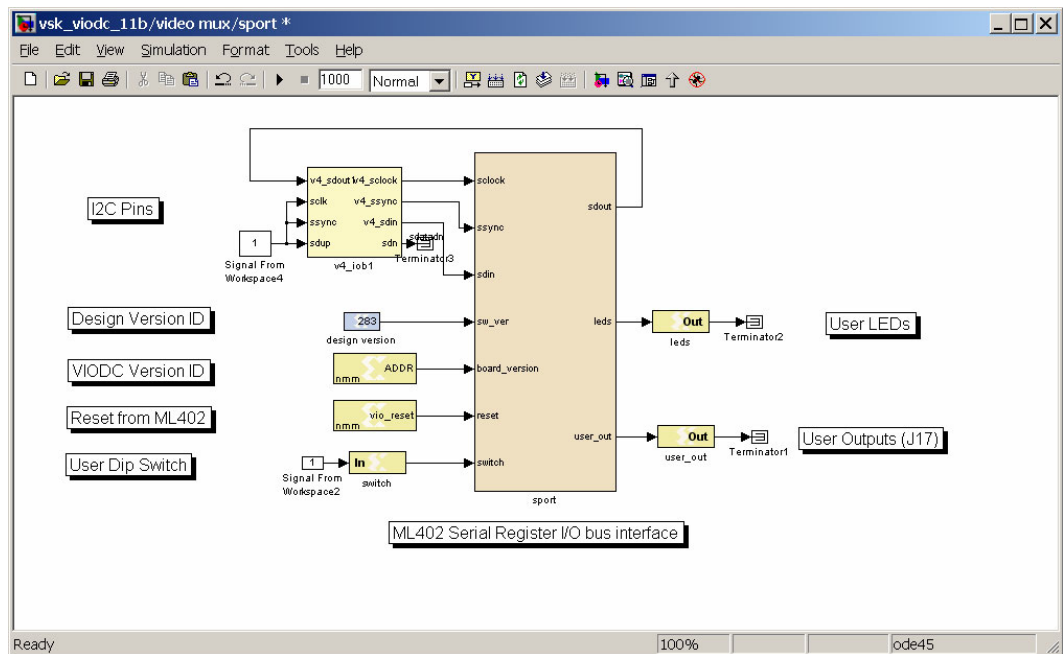

Figure 7-1: VIODC Serial Register I/O Block
2. From the top level, open the `video_mux/sport` (Figure 7-1).